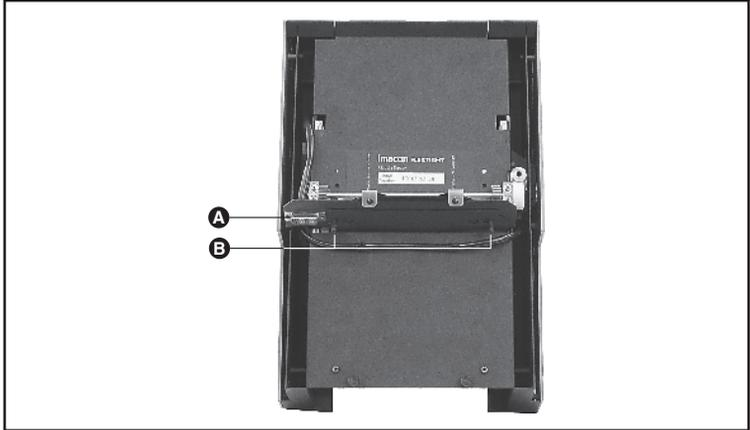

Figure 3: Back panel of the Batch Feeder, showing the electronic connector (A) and mounting pins (B).
- Get the Batch Feeder and study its back panel. Here you should see an electronic connector (A) and a pair of mounting pins (B), as shown in Figure 3, below.